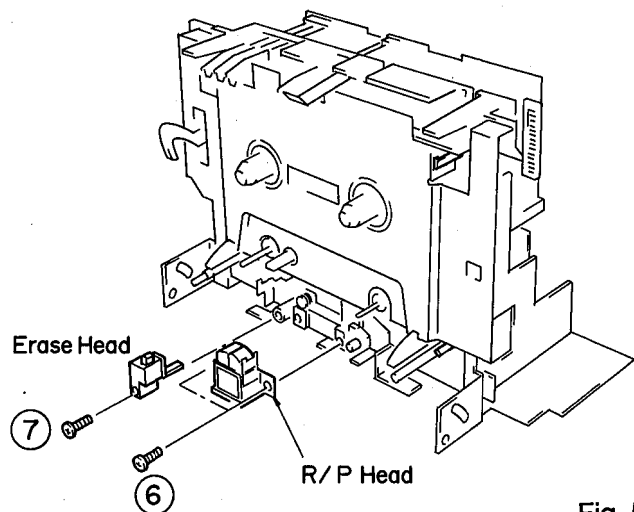

Fig. 5
- Remove the recording/playback head by removing the 2 screws (6) in fig. 5.
- Remove the erase head by removing the screw (7) in fig. 5.